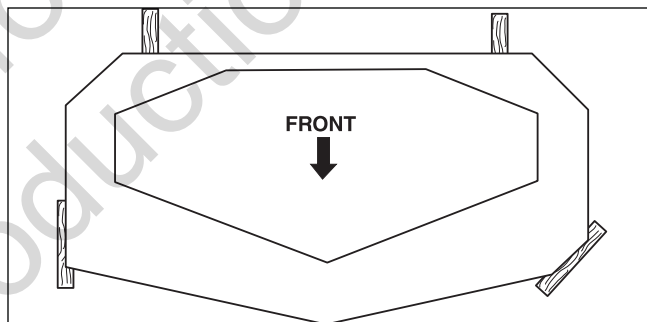

Figure 41. 2 X 4 Locations
2. Place the 2 X 4 blocks under each corner of the mower deck with the 3-1/2" sides being vertical. See Figure 41.